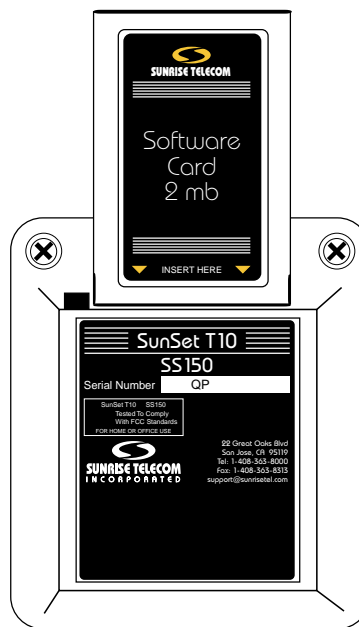

Figure 1 Cartridge Installation
6. Ensure the software cartridge is fully seated in its slot. Refer to Figures 1 and 2.